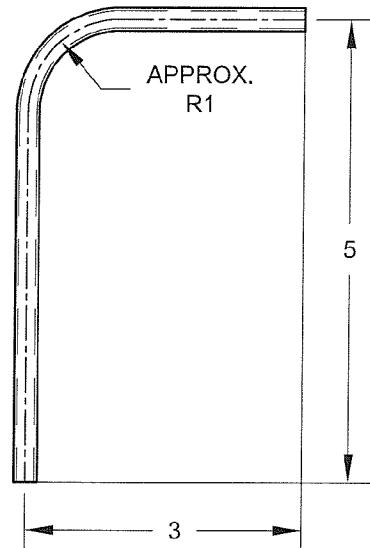

FIGURE 1: PITOT TUBE
Step 1: Make the PITOT TUBE from ATO-032 X 1/4. Start with a piece of tubing at least 8 inches long, bend the tubing and then trim to match the dimensions shown in Figure 1.